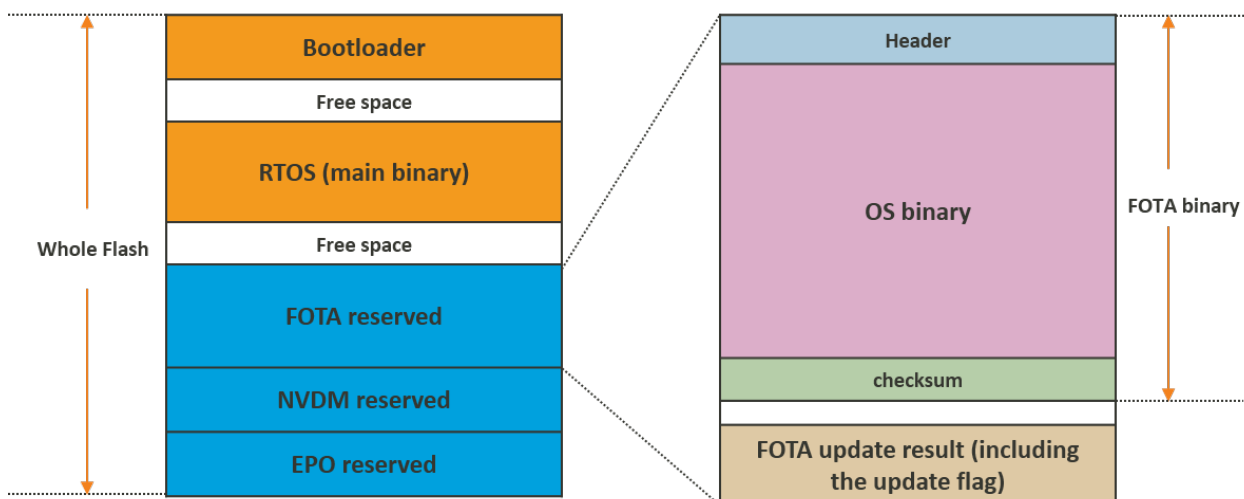

Figure 13. FOTA binary reserved memory
There is a power failure protection for the OS binary (main binary) update. Before the OS binary update, the **Update Agent** writes a marker to the flash, as shown in Figure 13. After the OS binary update is complete, the marker is cleared from the flash. If power failure occurred during the OS binary update, the **Update Agent** checks marker to restart the process.
- 2) In Device Manager, navigate to **Ports (COM & LPT)** (see Figure 13).
- 4) A new COM device should appear under **Ports (COM & LPT)** in Device Manager, as shown in Figure 13. Note the COMx port number of the **USB Serial Port**, this information is needed to complete configuration of PuTTY.